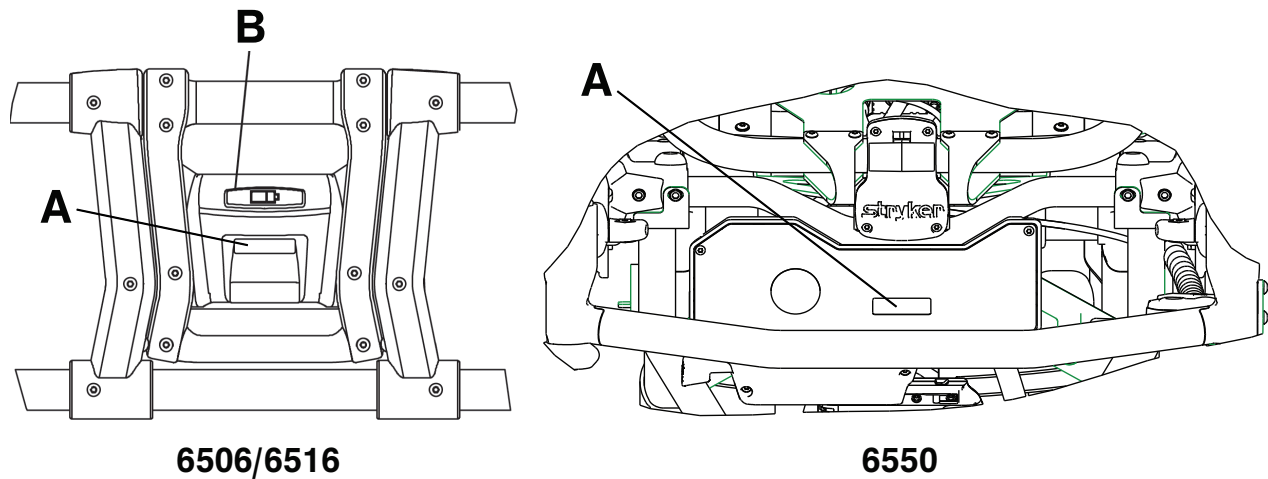

Figure 6 – Checking the hour meter (A), error display (A), and battery status (B)
Use the hour meter (A) to determine the frequency of preventive maintenance. Use the error display (A) for troubleshooting (Figure 6). The error display overrides the hour meter display when an error occurs.